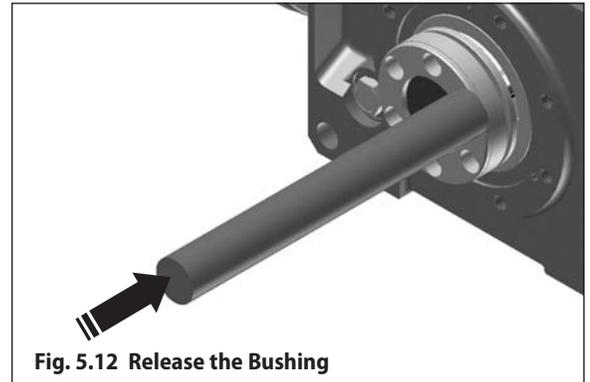

Fig. 5.12 Release the Bushing
**Step 5** – Place a copper or brass bar against the flange of the Taper-Grip® Bushing and carefully strike end of bar with a hammer to release bushing (see Fig 5.12).